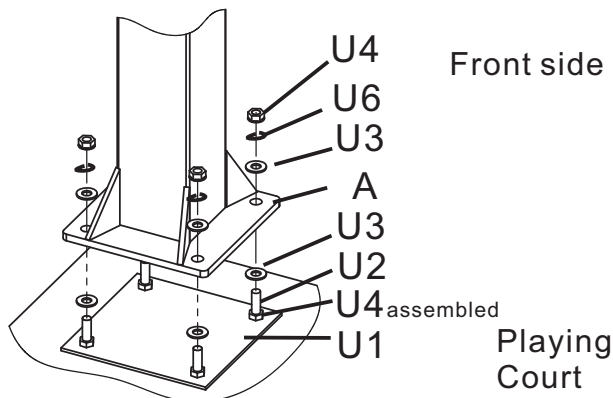

Figure1
Slide one Thick washer M16 (U3) over each J-bolt (U2). Lift the Pole (A) onto Anchor system, secure with one thick washer (U3), one Lock washer M16 (U6) and one Hex nut (U4) for each J-bolt. See **Figure 1**.